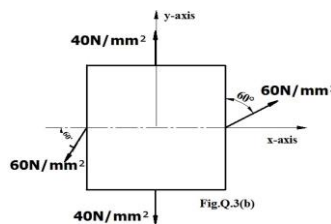

Figure 13
11. A point is strained material is subjected to the stresses as shown in **Figure 13**. Locate the principal planes and evaluate the principal stresses.